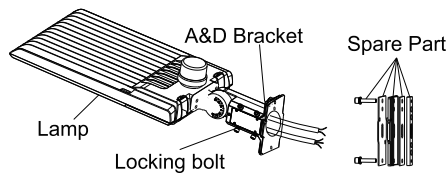

Figure 13
Step 1: Remove the spare parts from A&D bracket. (Figure 13).